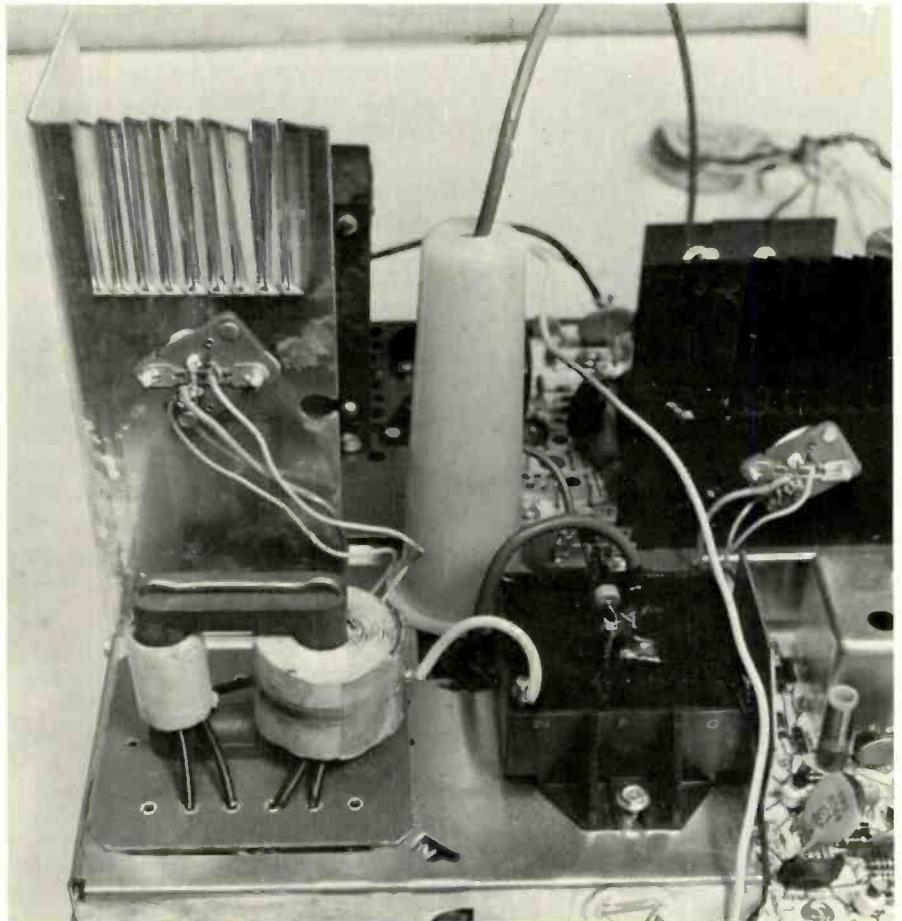

Fig. 1—The horizontal output transformer and high-voltage tripler circuit employed on Sylvania's E01 Color-TV Chassis.
■ Last month we reviewed the channel switching, VHF tuning, VHF oscillator and mixer, video IF amplifier and the AGC system of the Sylvania E01 color-TV chassis; while some of the more interesting circuits covered this month include: A high-voltage tripler circuit that reportedly requires only one-third the pulse voltage, relieving most of the stress normally present at the flyback transformer (Fig. 1); and a brightness-limiting circuit that controls the beam current and protects the CRT by restricting its emission level, thus increasing the CRT life. These are just a few of the important circuits employed in this chassis.